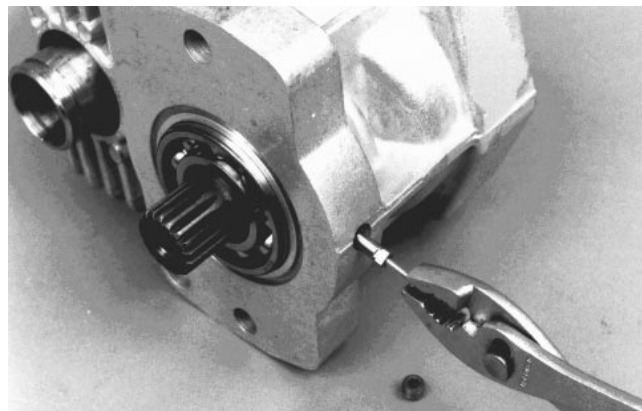

Figure 50
11. Use an 8-32 machine screw to remove motor shaft bearing retaining pin from housing (Fig. 50).